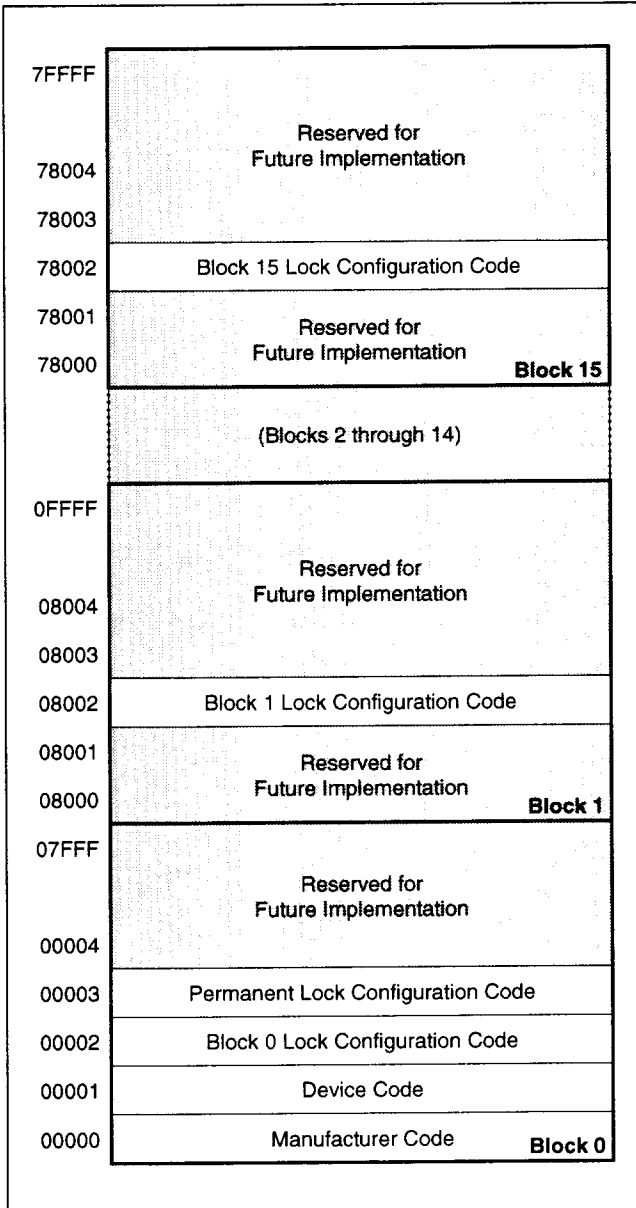

Figure 4. Device Identifier Code Memory Map
The read identifier codes operation outputs the manufacturer code, device code, block lock configuration codes for each block, and the permanent lock configuration code (see Figure 4). Using the manufacturer and device codes, the system CPU can automatically match the device with its proper algorithms. The block lock and permanent lock configuration codes identify locked and unlocked blocks and permanent lock-bit setting.
IA = Identifier Code Address: see Figure 4.
The identifier code operation is initiated by writing the Read Identifier Codes command. Following the command write, read cycles from addresses shown in Figure 4 retrieve the manufacture, device, block lock configuration and permanent lock configuration codes (see Table 5 for identifier code values). To terminate the operation, write another valid command. Like the Read Array command, the Read Identifier Codes command functions independently of the  $V_{PP}$  voltage and RP# can be  $V_{IH}$  or  $V_{HH}$ . Following the Read Identifier Codes command, the following information can be read:
1. X selects the specific block lock configuration code to be read. See Figure 4 for the device identifier code memory map.